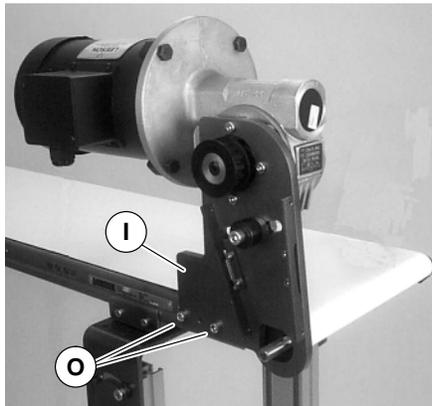

Figure 6
- Attach mount assembly (I of Figure 6) with screws (O). Tighten to 80 in-lb (9 Nm). For 4100 conveyors, proceed to step 7.